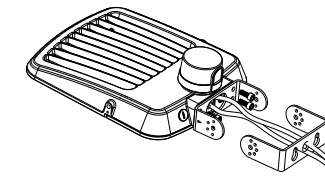

Figure 11
Step 1: Remove the bracket mounting screws on the fixture and run the wires through the bracket. (Figure 11)